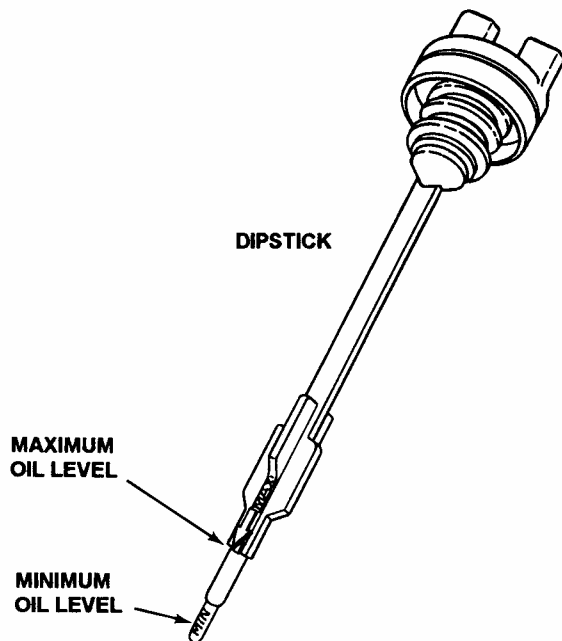

FIGURE 5
10. Slowly pour the contents, 20 oz, of the supplied oil into the oil fill tube. Check the oil level after you have added approximately 15 oz and slowly add until the max. mark is reached. See Figure 5. Reinstall the oil fill dipstick.